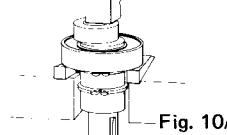

Fig. 10A
7. Remove both **RETAINING RINGS** with a screwdriver. (Tool C in Fig. 3 used on old style retainer rings). If necessary, apply pressure to cam bearing (Fig. 10A) to loosen ring. Reverse assembly in press and force shaft out of bearing. Remove **PLASTIC BEARING SHIELD** (Ref. 23) from shaft.